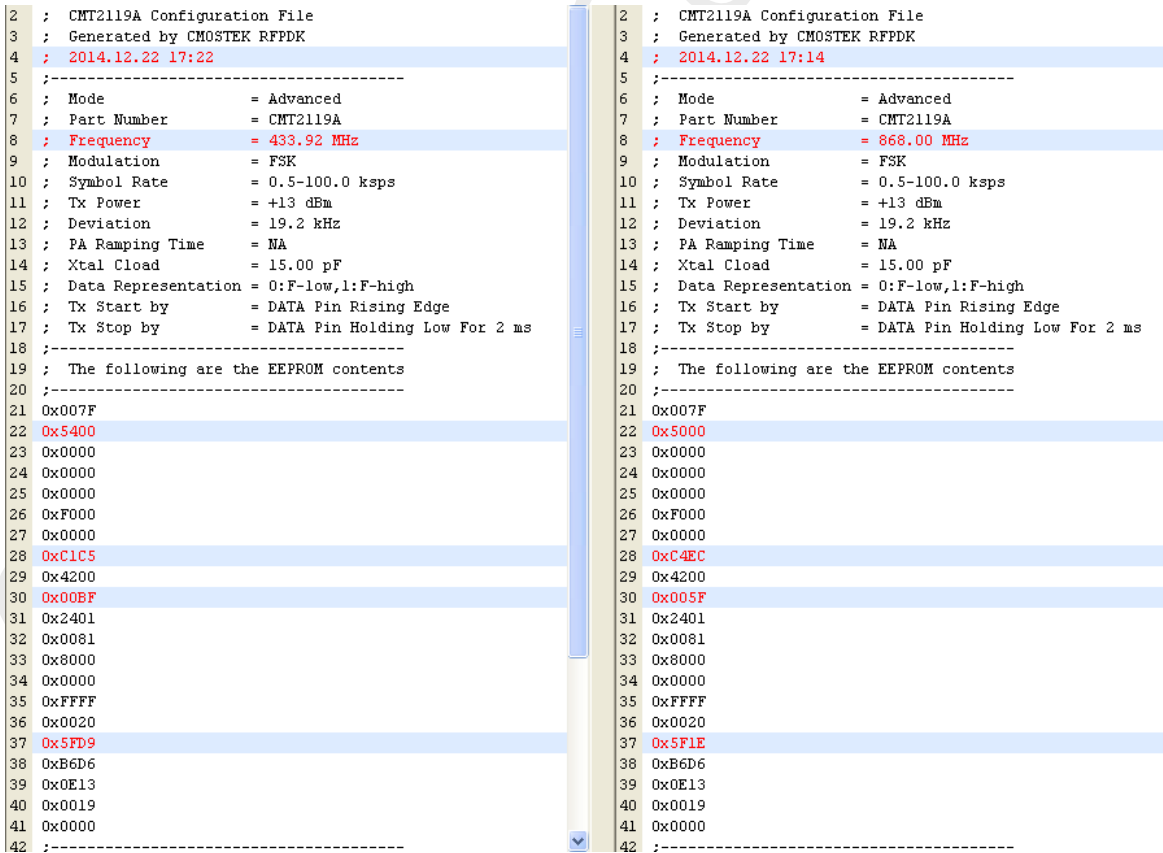

Figure 27. Examples of Changing Frequency
- Compare the 868MHz.exp file with the 433.92MHz.exp file and find out the registers being changed, as shown in Figure 27. Please note that the address of the registers starts from 0x00 and ends at 0x15 (21 registers in total).